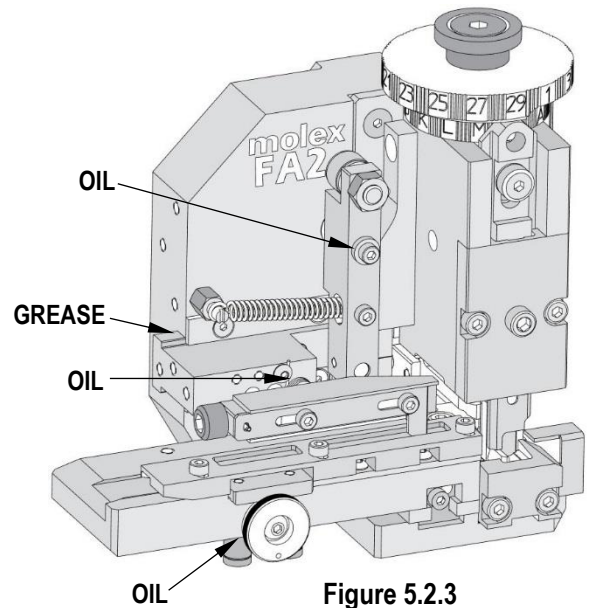

Figure 5.2.3
4. Additional lubrication areas are shown in Figure 5.2.3.